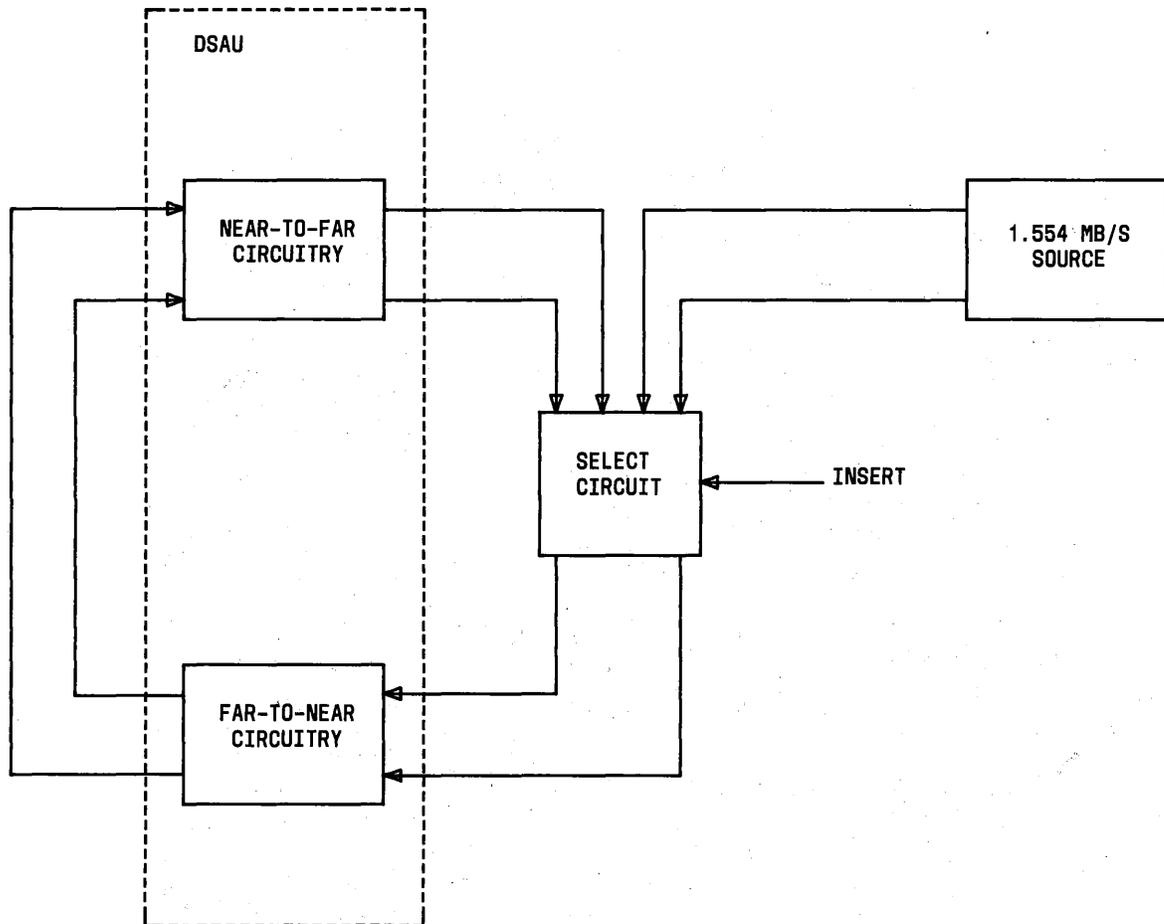

Fig. 7—Self-Test Unit Looping Arrangement
3.26 The DSAU CP that is used as the self-test unit in a DSAU shelf can also be used as a spare DSAU for any of the active DSAU CPs since all of the DSAU CPs are identical. When used in the self-test mode (Fig. 7), the DSAU is arranged so that the output and input pairs of the near-to-far circuits are connected to the input and output pairs of the far-to-near circuits, respectively. During the absence of a self-test operation, the connection from the near-to-far circuit to the far-to-near circuit is broken and a 1.544 Mb/s signal is connected to the inputs of the far-to-near circuitry to maintain clock on both circuit sections.